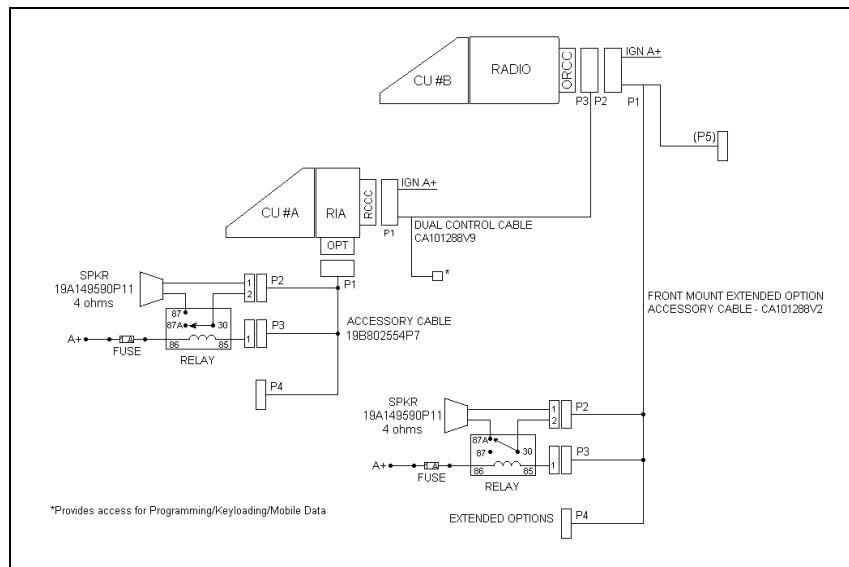

Figure 10-4: M7100^{IP} Dual Control Unit Front Mount/Remote Mount Installation Configuration
1. Referring to Figure 10-4, run the Dual Control Cable (19B802554P9) between locations for the Radio Unit and Auxiliary Control Unit. Be sure to locate the P2/P3 connector assembly at the Radio Unit.
- B. Hardwire each speaker directly (without relays) as shown in Figure 10-4.
9. Radio Unit Speaker: Connect the lead nearest the speaker to Pin 87A of the relay. Connect the lead nearest the connector to Pin 30 of the relay. Connect the connector to the Accessory Cable P2 (refer to Figure 10-4).
10. Auxiliary Control Unit Speaker: Connect the lead nearest the speaker to Pin 87 of the relay. Connect the lead nearest the connector to Pin 30 of the relay. Connect the connector to the Accessory Cable P2 (refer to Figure 10-4).
11. For each relay: Connect a #18 AWG black wire between the relay, Pin 85 and Accessory Cable P3-1 (labeled **“OUT2”** on the schematic diagrams in the service manual). Use a 1/4” tab receptacle on the relay side and mating Molex connector and pins on the accessory cable side. Connect the mating Molex connector to the Accessory Cable P3 when finished (refer to Figure 10-4).
12. For each relay: Connect a #18 AWG red wire to the relay, Pin 86. Cut to length, and connect to the 1A fuse holder (supplied). Use crimp on connectors supplied. Connect the other side of the 1 amp fuse holder to A+ battery source or vehicle A+ fuse block. Use #18 AWG red wire and ring lug supplied, if needed (see Figure 10-4).